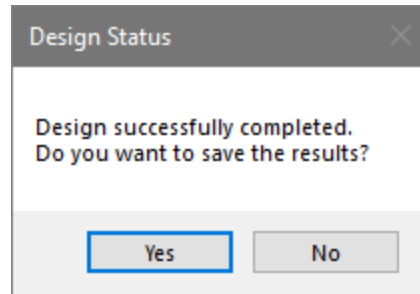

Figure 10-24
- Click on *Floor Design* → *Section Design* and click on the *Design the Sections*  icon. The program will start to perform the design of the sections. When completed you should see a window as shown in **FIGURE 10-24**.